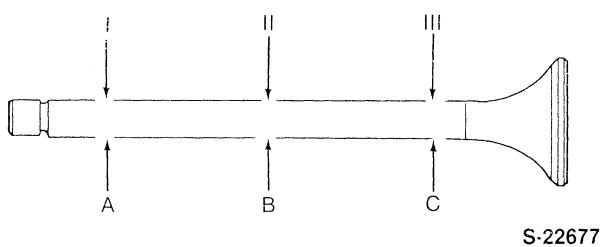

Figure 19
2. Using a micrometer, measure the valve stem at points "A", "B" and "C", Figure 19.